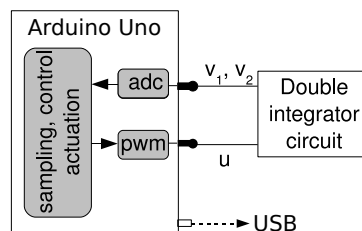

Figure 1: Microprocessor-based control.
The objective of this lab is the implementation of a microprocessor based real-time control system. The platform will permit to control an electronic *Double Integrator (DI)* circuit as shown in Figure 1, by properly coding a task on top of a real-time implementation.
To start working with the *DI* circuit, a first approach is to observe how the system reacts to a given input, approach that we call **open loop control**. Using the *microprocessor-based control* architecture shown in Figure 1, we will apply a reference signal in the form of a square wave of amplitude 1V (from $-0.5V$ to $0.5V$) and frequency $2Hz$ to the plant input and will observe the plant output. Use the definitions named *topCountRef*, *refPos* and *refNeg*, to set the desired values in the Arduino program.